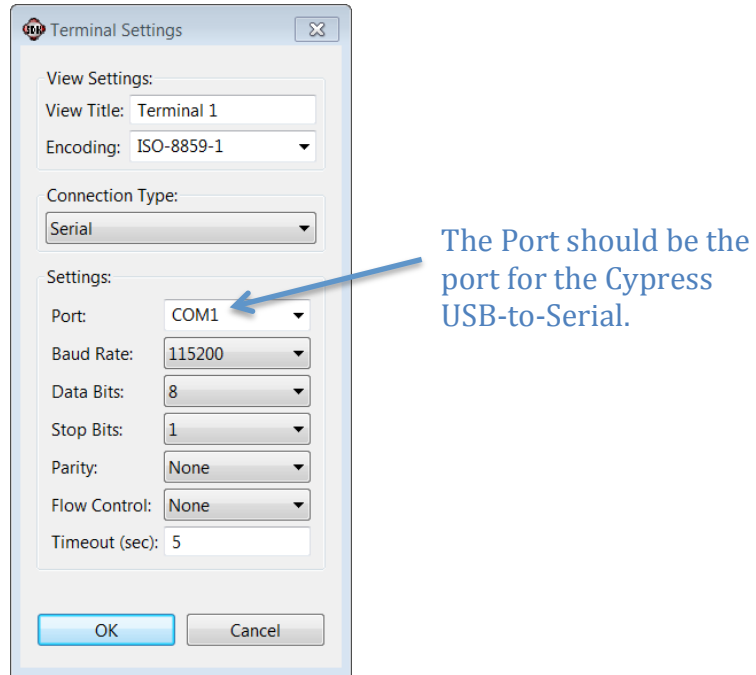

Figure 45: Terminal Settings
11. Use the following settings for the ZedBoard (FIGURE 45). Click **OK**.